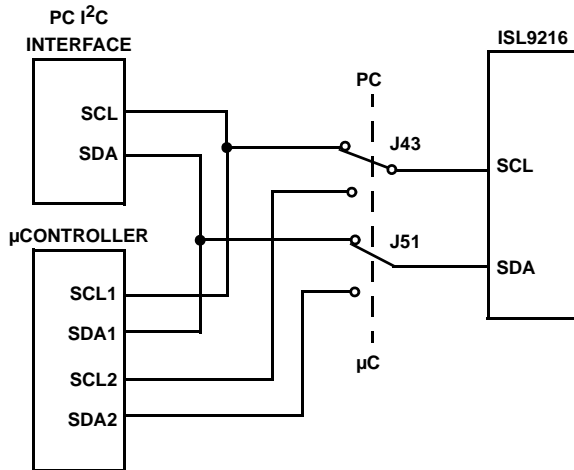

FIGURE 7. PC OR μ C CONNECTION TO THE ISL9216
- For this test, make sure the SCL and SDA jumpers are set to the PC position. In this case, the PC has full control of the board and the microcontroller function is disabled. (See Figure 7). Except for the ISL9216 automatic response to and over-temperature, all other actions of the board are manual and controlled through the GUI.